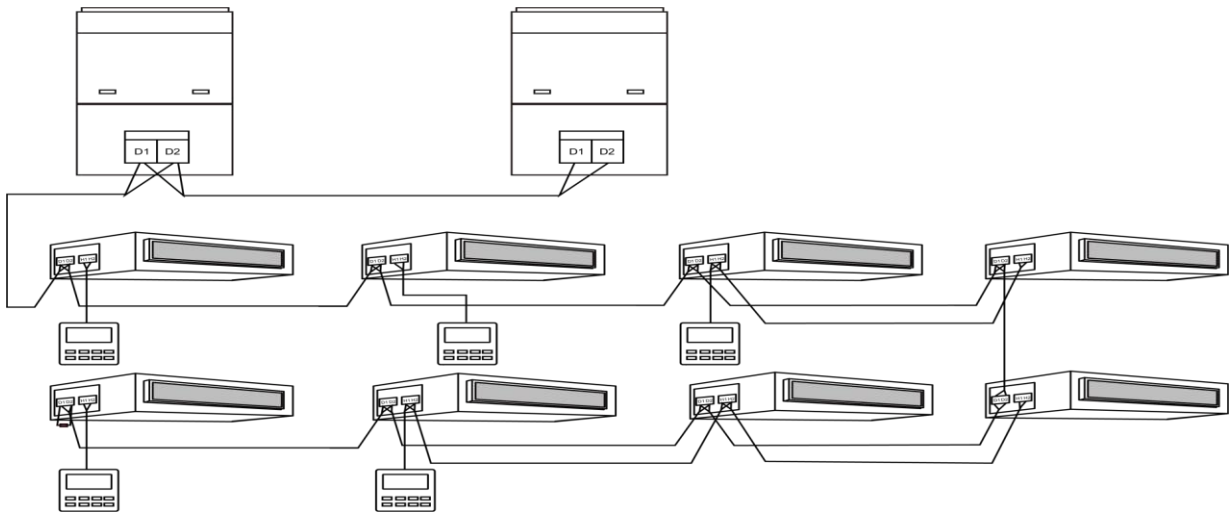

Fig32
4. One wired controller can control a maximum of 16 indoor units at the same time. (Fig32).